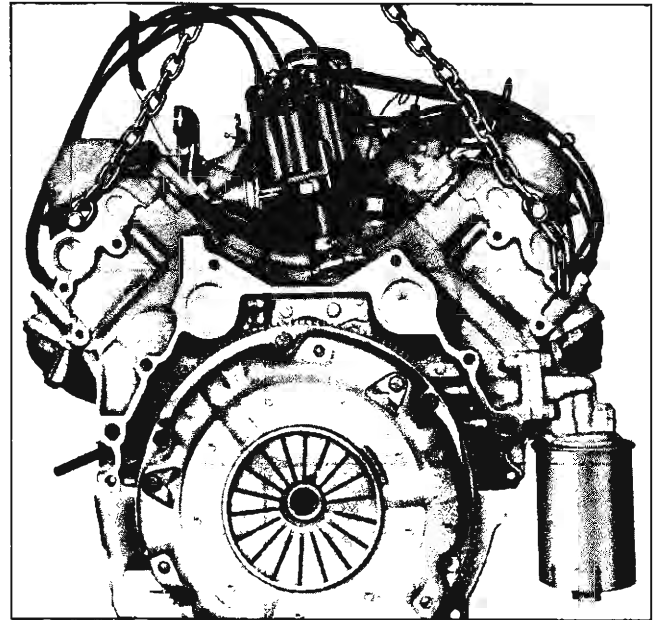

Fig. 6-21 Rear Engine Attaching Points for Removal
18. Thread  $\frac{3}{8}$ " bolts through ends of short, strong chain and insert in top holes at rear of right and left cylinder heads. Loop heavy chain fall through short chain and connect end of chain fall to lift plate on timing chain cover. Fig. 6-21.